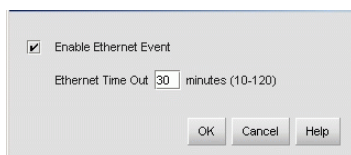

Figure 52: Configure Ethernet Event dialog box
1. Choose **Monitor > Ethernet Event**. The Configure Ethernet Event dialog box displays, as shown in Figure 52.